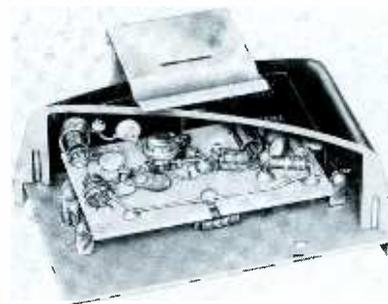

Fig. 13. Cutaway view of Winegard MA-300 showing internal construction.
12) is antenna-mounted and employs an MADT transistor as a common-emitter preamplifier (see Figs. 13 and 14). The manufacturer's specifications show an average gain of 18 db on the low band and 14 db for the high band. The noise figure varies from 3.8 db on Channel 2 to 4.9 db on Channel 13. A high-pass filter circuit is provided at the input to reduce interference from Citizens band transmitters.